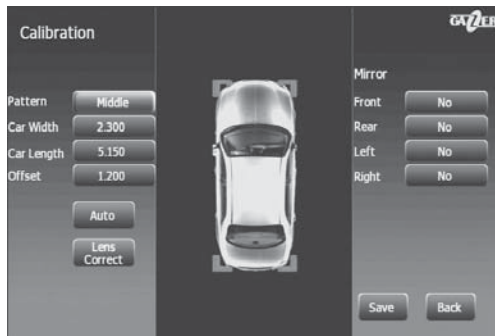
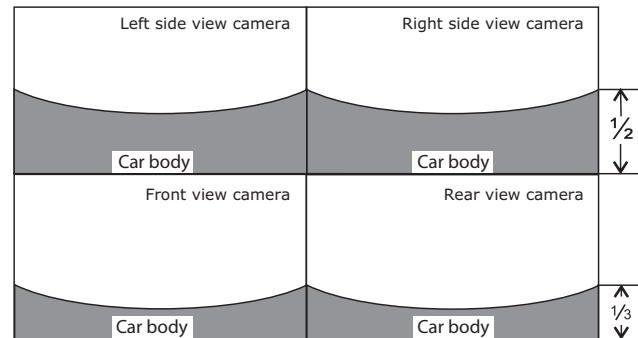

Fig. 7
Fig. 8
- Go to "Calibr:" (Fig. 7) and view video feed from each camera consecutively using navigation buttons on the remote control. Make sure that the image produced by the cameras matches the one on the diagram below (Fig. 8).